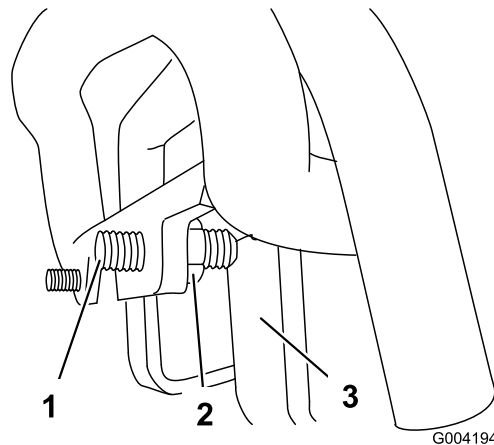

Figure 50
3. If the traction unit veers to the **left**, loosen the **right** jam nut and adjust the tracking set screw on the front of the traction control (Figure 50).
4. If the traction unit veers to the **right**, loosen the **left** jam nut and adjust the tracking set screw on the front of the traction control (Figure 50).